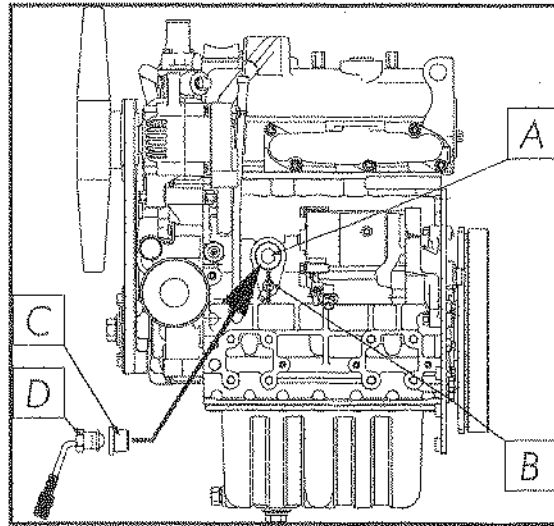

Figure 30-1
1. Connect a hose to drain tap B (figure 30-1) and empty the cooling liquid into a clean vessel by opening the tap. When the cooling system is empty, close the tap.
2. Cut the wings of tap B (figure 30-1), otherwise the engine heater will not fit in.
3. Remove 1" plug A between the starting motor and oil filter (figure 30-1).